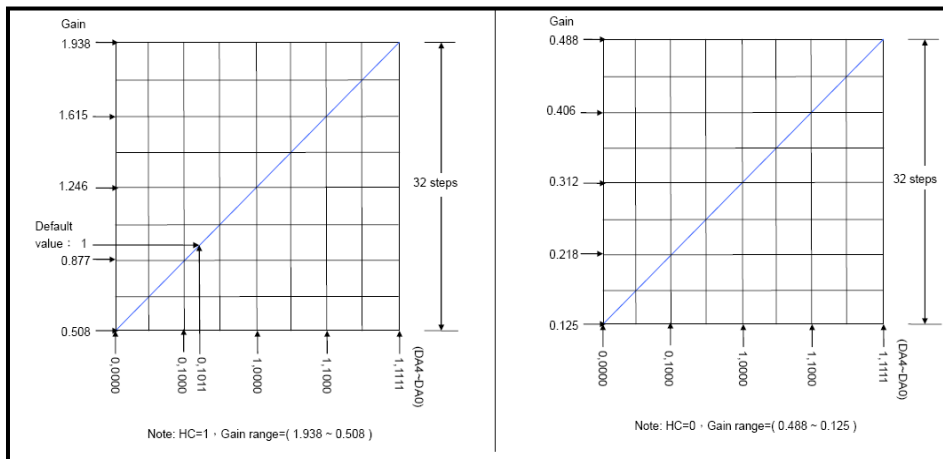

Figure 15. The relationship of current gain and gain code
Step 1: From (4), the $R_{ext} = [(0.61 \times 1) / 20\text{mA}] \times 23 = 701.5\Omega$. From figure 15, $G=1$ in the high gain region, that means the $HC=1$. Thus, substitute above information into (5), the $D=(65 \times G - 33) / 3 = 10.67 \approx 11$.